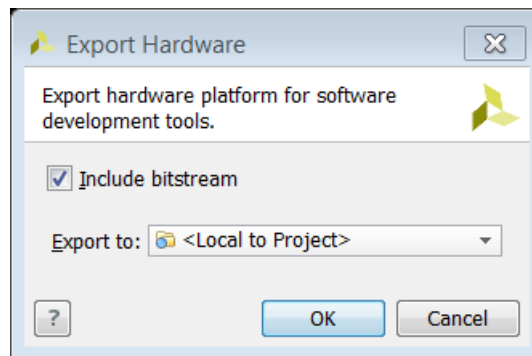

Figure 58: Export Hardware for SDK Dialog Box
2. In the Export Hardware for SDK dialog box, make sure that the **Include bitstream** check box is checked, and **Export to field** is set to **<Local to Project>**, as shown below in Figure 58.